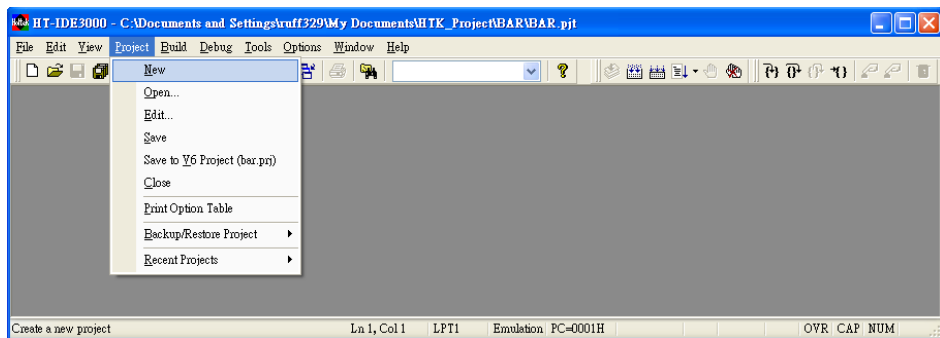

Fig 4-1
In the Project menu (Fig 4-1), select the New command to create a new project. This command will call the CodeWizard to assist users to create a new project.
The HT-IDE3000 can work with only one project at a time, which is the opening project, at any time. If a project is to be worked upon, the project should first be opened, by using the Open command of the Project menu (Fig 4-1). Then, insert the project name directly or browse the directories and select a project name. Use the Close command to close the project.
- Click either the Build command of the Project menu or the Build button on the toolbar (Fig 4-1) to start building a project
- Click either the Rebuild All command of the Project menu or the Rebuild all button on the toolbar (Fig 4-1) to start building a project once the project task has been built successfully, emulation and debugging of the application program can begin (refer to the HT-IDE3000 menu - Debug chapter).